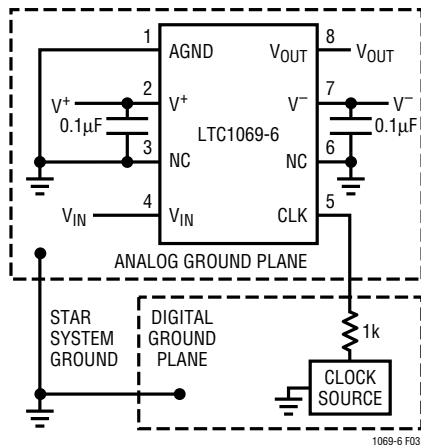

Figure 3. Connections for Dual Supply Operation
**$V^+$ ,  $V^-$  (Pins 2, 7):** Power Supply Pins. The  $V^+$  (Pin 2) and the  $V^-$  (Pin 7, if used) should be bypassed with a  $0.1\mu F$  capacitor to an adequate analog ground. The filter's power supplies should be isolated from other digital or high voltage analog supplies. A low noise linear supply is recommended. Switching power supplies will lower the signal-to-noise ratio of the filter. Unlike previous monolithic filters, the power supplies can be applied in any order, that is, the positive supply can be applied before the negative supply and vice versa. Figure 3 shows the connection for dual supply operation.